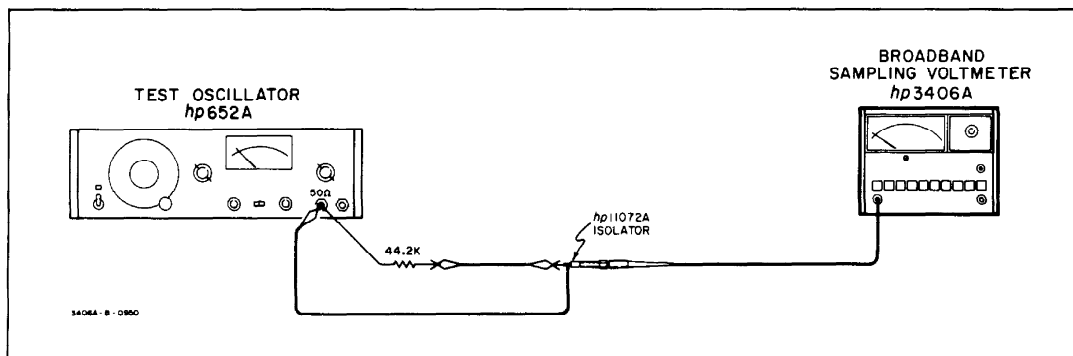

Figure 5-4. Input Impedance Test Setup
- b. With 11072A Isolator attached to probe, connect the Model 3406A to 50 ohm output on oscillator through the resistor as illustrated in Figure 5-4.